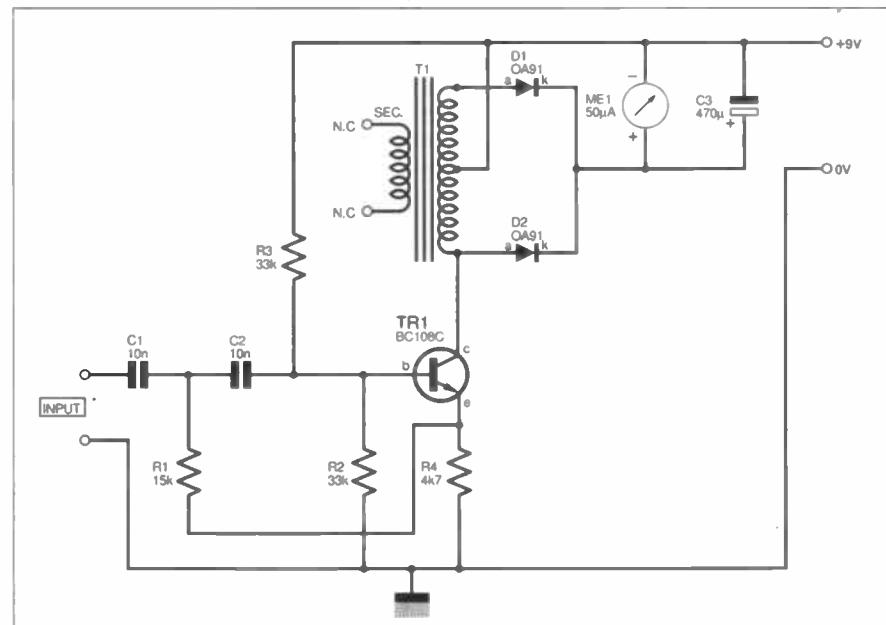

Fig. 2. Circuit diagram for the applause Clap-O-Meter.
**D**EIGNED as a novelty circuit, the Clap-O-Meter of Fig. 2 will prove handy for anyone organising talent contests, quizzes etc. where the audience applause needs to be measured. The input of the circuit can be potted down from a line-level signal, or from loudspeaker terminals. The sensitivity of the circuit is about 500mV r.m.s.